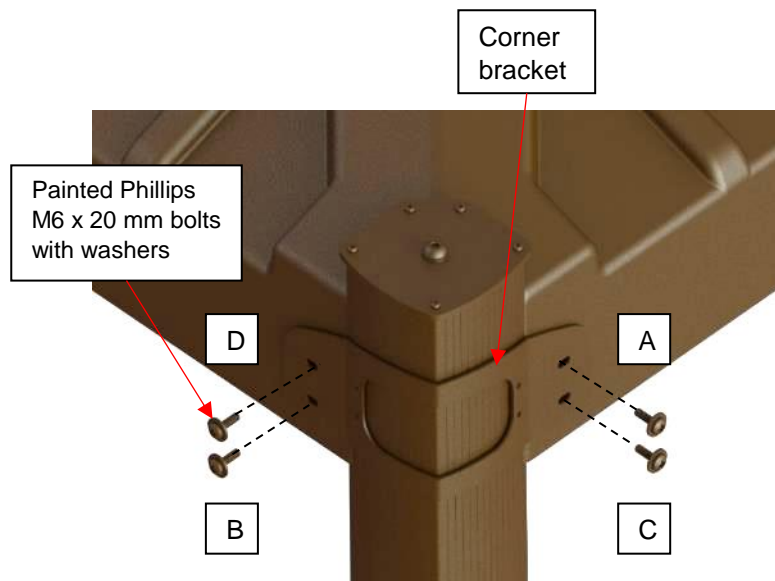

Figure 73
- 3) Install the first corner bracket (Figure 73). Fasten the bracket to the cover with four painted Phillips M6 x 20mm bolts and 5/16" painted washers.
Note: Follow the patterns shown for installing the bolts (A to D). (Figure 73)
Note: We recommend placing the rounded edge of the corner bracket toward the top. (Figure 73)